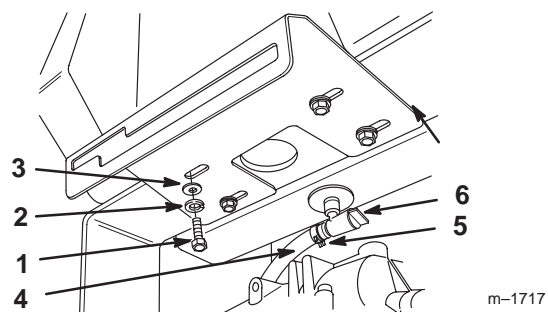

**Figure 2**
1. Slide control panel over shift lever and under bottom of rear frame (Fig. 2). Align fuel tank to top of rear frame (Fig. 2).